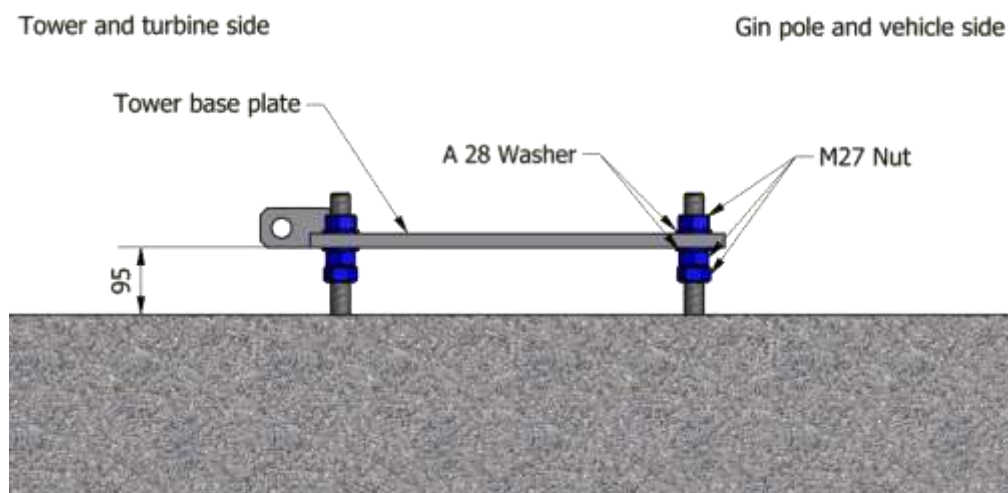

Figure 3 – Placing the base plate
1. Place four pairs of M27 nuts onto the M27 threaded bars and place A 28 washer on top of each pair (see Figure 3). Adjust the upper nut surface to roughly 95 mm from the foundation surface. Use WD-40 oil to lubricate the nuts before placing them on the bars.